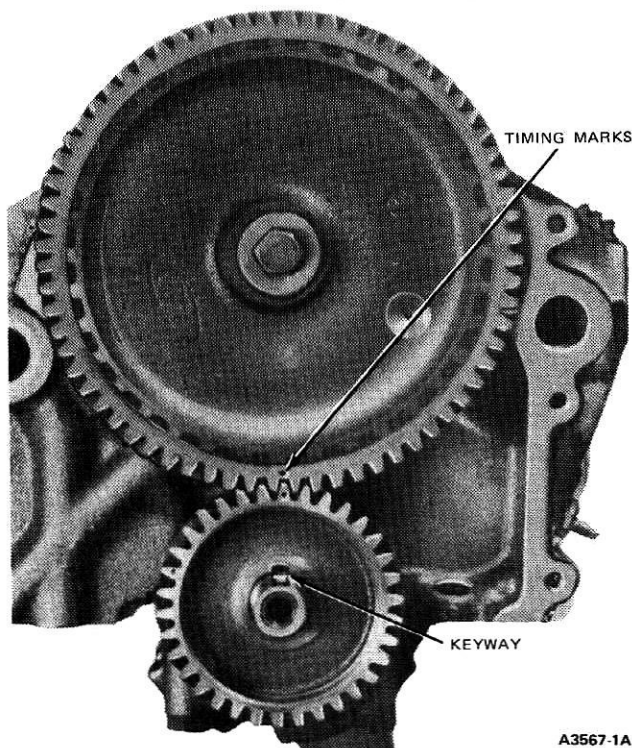
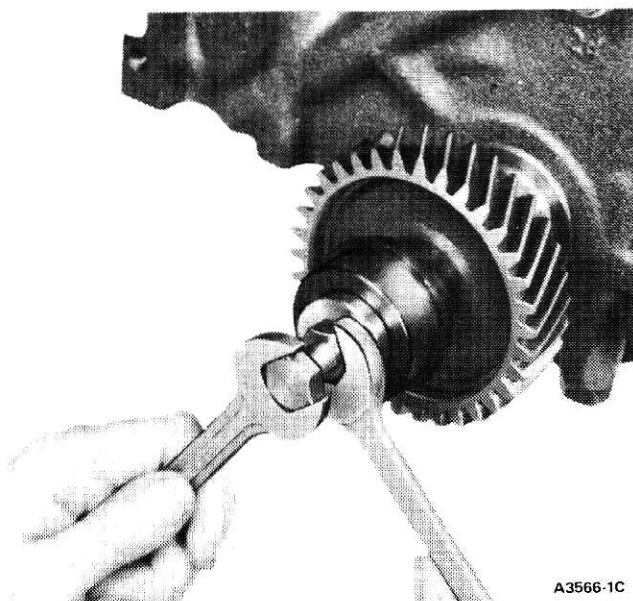

FIG. 26 Aligning Timing Marks
FIG. 27 Installing Crankshaft Gear
5. Turn camshaft and crankshaft as necessary to align timing marks as shown in Fig. 27 and install camshaft gear. Install attaching bolt and washer and tighten to specifications.
3. Position the key in the crankshaft. Align the keyway in the crankshaft gear with the key in the crankshaft, and align the timing marks as shown in Fig. 26. Install the gear, using the tool shown in Fig. 27.